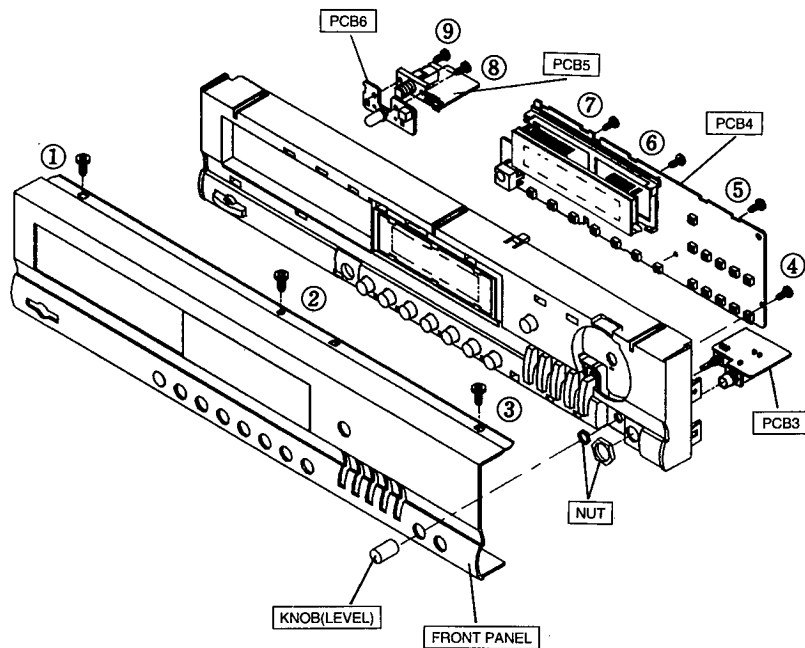

Fig. 5
- 2) Remove screws ④ to ⑦ in Fig. 5 and remove PCB4 by Pressing the hooks around it outward.
- 2) Pull out the knob(Level) in Fig. 5.
- 3) Remove screws ① to ③ in Fig. 5 and pull front panel toward you gently.
- 4) Remove the hex nuts(Level/Headphones) in Fig. 5 and then remove PCB3.
- 2) Remove screws ⑧ and ⑨ Fig. 5 and then remove PCB5.